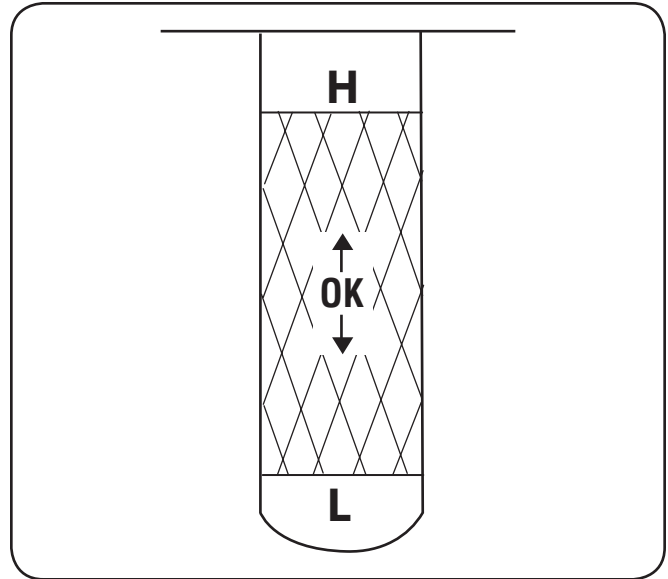

Figure 3-4
2. Slowly add oil until the oil level registers between high (H) and low (L), Fig. 3-4. Refer to the Engine Maintenance section for the correct oil viscosity and engine oil capacity.